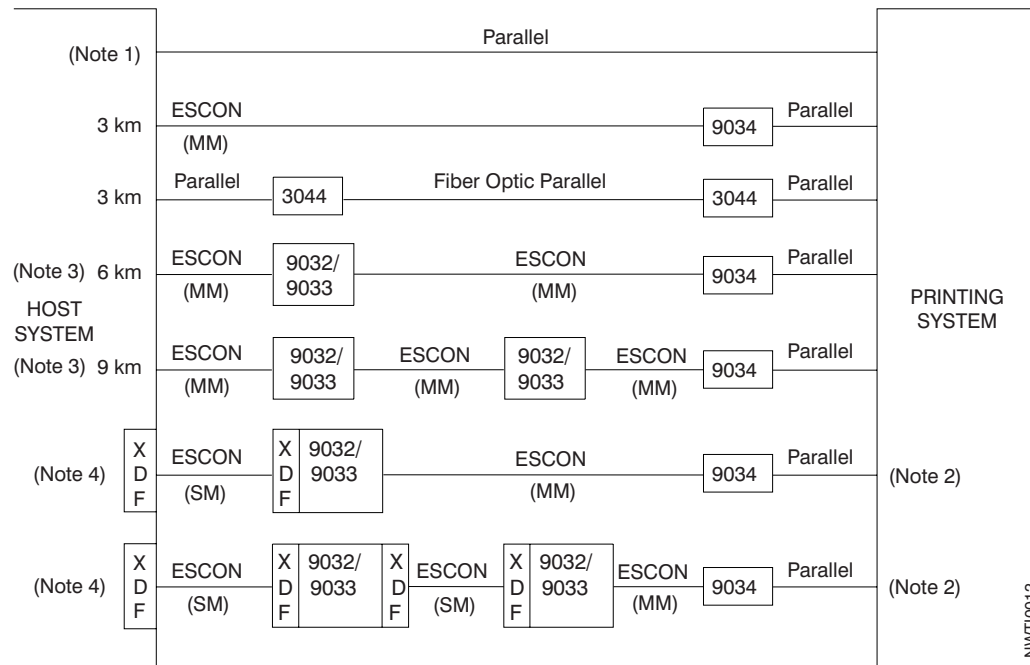

Figure 8. System/370 Parallel Channel Attachment Options
**Note:** An exception to the above is when XDF is used in the interface with the distance between the host and the printer exceeding 10 km, then use the DC Interlock transfer mode. See Note 2 in Figure 8 on page 85.